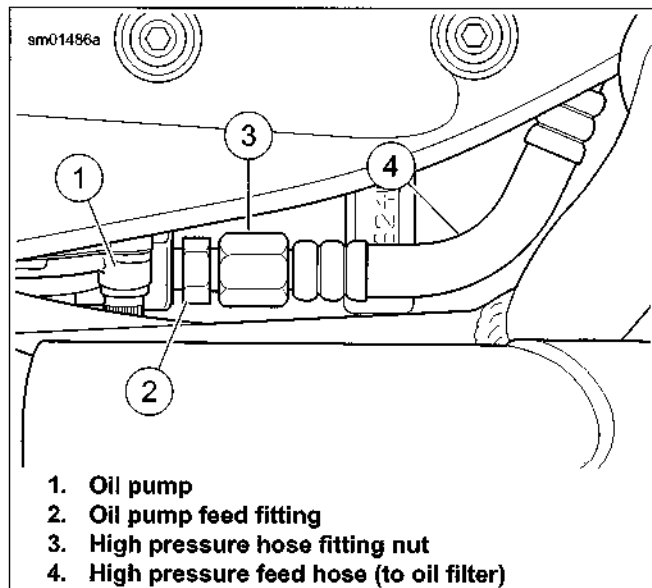

Figure 3-106. Oil Pump Feed Hose
See Figure 3-106. Do not remove oil pump feed fitting (2) from the pump (1). Hold oil pump feed fitting and loosen large high
- See Figure 3-106. Remove high pressure feed hose (4) from oil pump (1).
3. Install hoses on oil pump. Attach oil tank feed hose to hose fitting (5) with **new** clamp. Attach oil tank vent hose to elbow fitting (13) with **new** clamp.
4. See Figure 3-106. If oil pump feed fitting (2) was removed for any reason, install fitting in oil pump (1) cover. Tighten to 100-120 **in-lbs** (11.3-13.6 Nm).
5. If high pressure feed hose (4), was removed completely, install end opposite high pressure fitting nut (3) in crankcase. Tighten to 60-90 **in-lbs** (6.8-10.2 Nm).
6. Install high pressure feed hose fitting nut (3) onto feed fitting on front of oil pump. Hold oil pump feed fitting with a wrench and tighten high pressure hose fitting nut to 85-105 **in-lbs** (9.6-11.8 Nm).